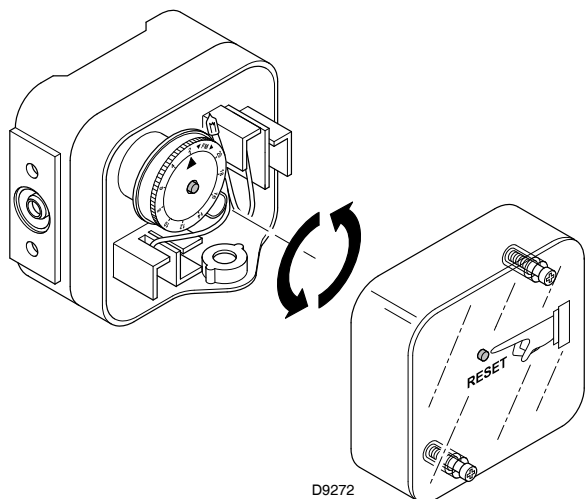

Fig. 29
- Adjust the maximum gas pressure switch (Fig. 29) to the end of the scale.